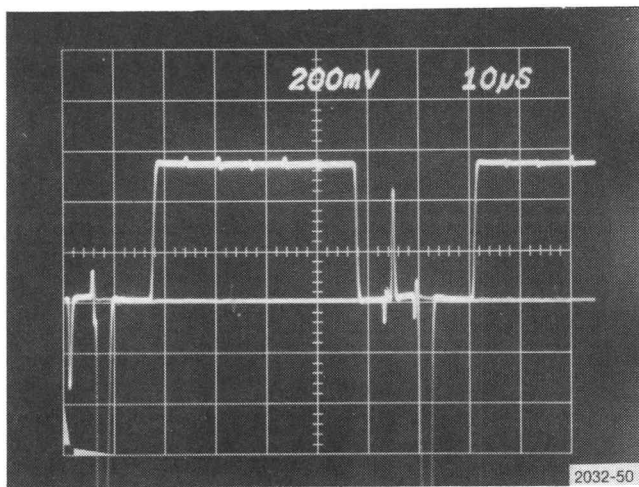
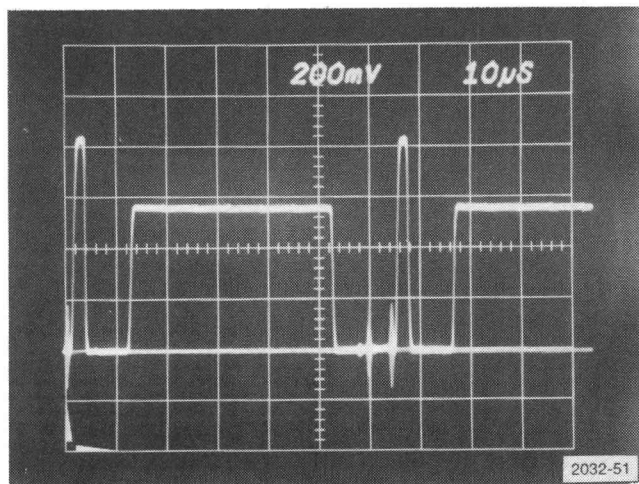

Fig. 5-9. 1420 — Differential Gain setup.
Fig. 5-10. 1421, 1422 — Differential Gain setup.
- c. Rotate the PHASE control for maximum amplitude of the demodulated subcarrier, as monitored on the test oscilloscope. See Fig. 5-9 or Fig. 5-10.